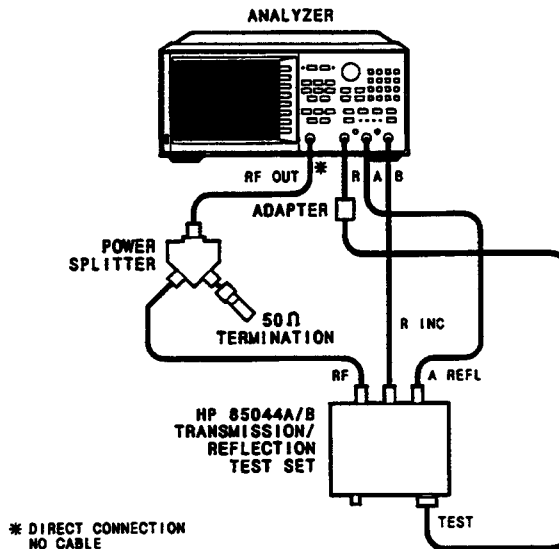

Figure 13. R Input Impedance Test Setup
9. Connect the equipment as shown in Figure 13 and repeat steps 3 through 6 to measure input R return loss.